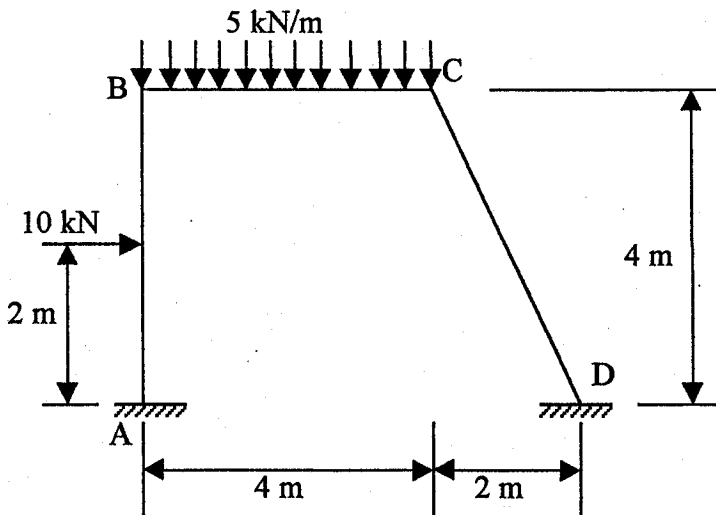

Fig. Q3
3. For the frame of Fig. Q3, use the method of moment distribution to calculate the direction and magnitude of the horizontal force required at node B to prevent sway. The frame is of constant flexural rigidity.